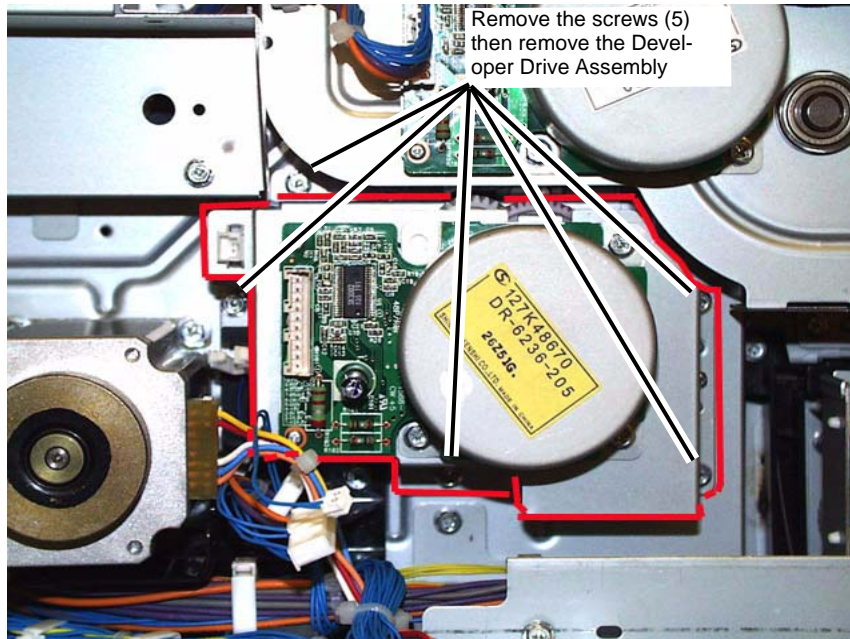

Figure 2 Removing the Developer Drive Assembly
6. Remove the Developer Motor Assembly. (Figure 2)